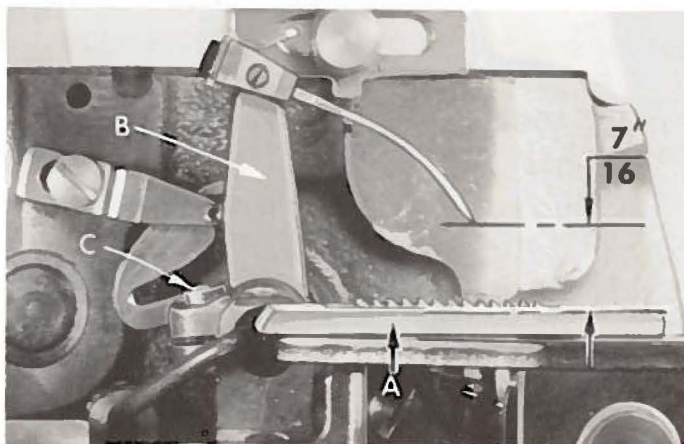

Fig. 3
With the throat plate (A, Fig. 3) assembled in position, the needle arm (B) should be set so that the needle enters the center of the slot in the throat plate and at high position, the point of the needle should be set  $7/16$  inch above the top surface of the throat plate (Fig. 3). This can be accomplished by loosening screw (C), reposition needle driving arm as required and retighten screw. Remove the throat plate.